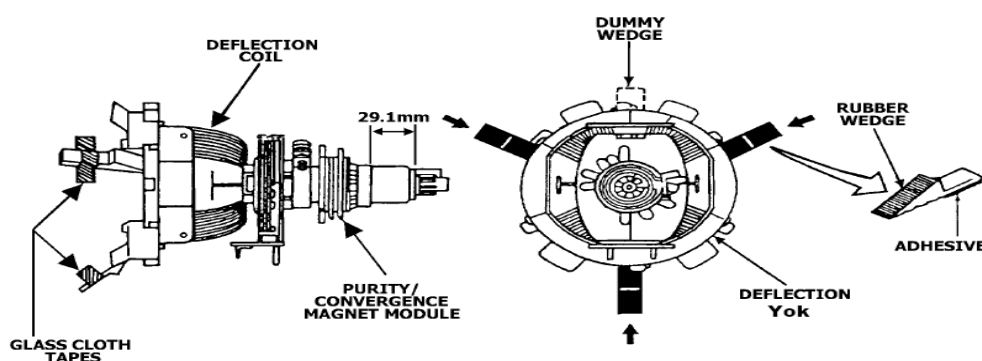

Fig. 1
1. Refer to Figure 1, remove 7 screws.
Note: If the Picture Tube is being replaced, mount the Degaussing Coil on the picture tube. See following Figure 1. Cabinet Back Removal
1. The purity/convergence magnet assembly and rubber wedges need mechanical ositioning. Refer to Fig1, 2.